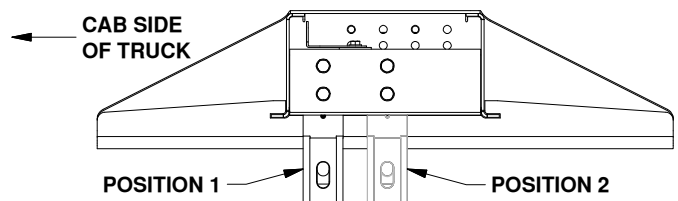

FIGURE B1: Cutaway view of Companion base with both socket post positions shown.
1. The socket post of the Companion hitch is designed to have two mounting options. In most truck models, the gooseneck socket will be forward of the axle and the companion socket post will install towards the cab of the truck (position 1). If your socket is located over the axle due to the frame configuration of your truck, as it is in some RAM trucks (see model year information for: GNRK1314, GNRK1384, GNRK1319), install your socket post so the post is towards the rear of the truck. (position 2), see figure B1.